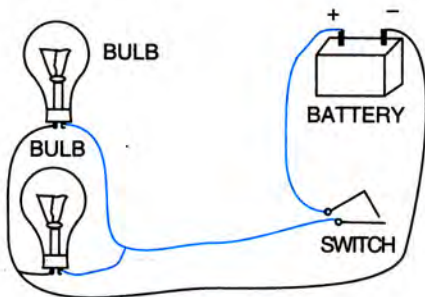

Fig. 9.7
- (a) The completed diagram is shown in Fig. 9.7.